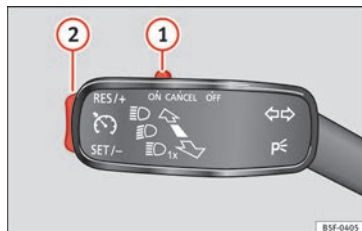

Fig. 32 See Fig. 3 for positioning
- Switching on the CCS: Move switch » Fig. 32 ① to **ON**. The system is on. If no speed has been programmed, the system will not control it.
- Activating the CCS: Press button » Fig. 32 ② in the **SET/-** area. The current speed is memorised and controlled.
- Temporarily switching off the CCS: Move switch » Fig. 32 ① to **CANCEL** or push the brake. The cruise control system is switched off temporarily.
- Reactivating the CCS: Press button » Fig. 32 ② in **RES/+**. The memorised speed is saved and controlled again.
- Increasing stored speed during CCS regulation: press button ② in **RES/+**. The vehicle accelerates until the new stored speed.
- Reducing stored speed during CCS regulation: press button ② in **SET/-** to lower the speed by 1 km/h (1 mph). Speed is reduced until reaching the new stored speed.
- Switching off the CCS: Move switch » Fig. 32 ① to **OFF**. The system is disconnected and the memorised speed is deleted.